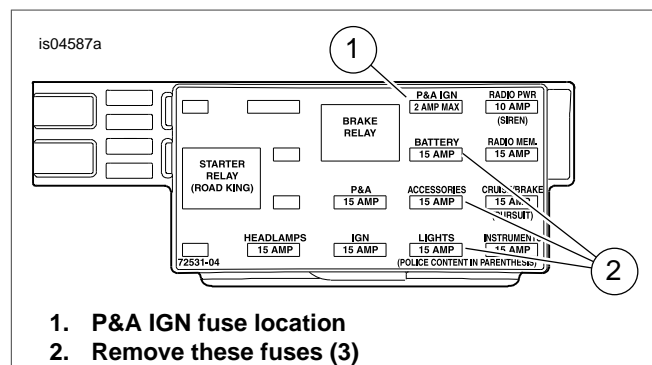

Figure 10. P&A IGN Fuse Cavity (2004-2007 Touring Models)
3. **2004-2007 models:** See Figure 10. Locate the fuse cavity marked "P&A IGN", "2A MAX" (1). There is a terminal in only one side of this cavity. Remove the three fuses (2) currently installed in this row, noting their location.
Note the terminal on each end (see Figure 10, **upper view**). Only the terminal **WITH the spring tabs** will fit into the fuse cavity. Carefully cut the terminal **WITHOUT** spring tabs from the wire and discard it.